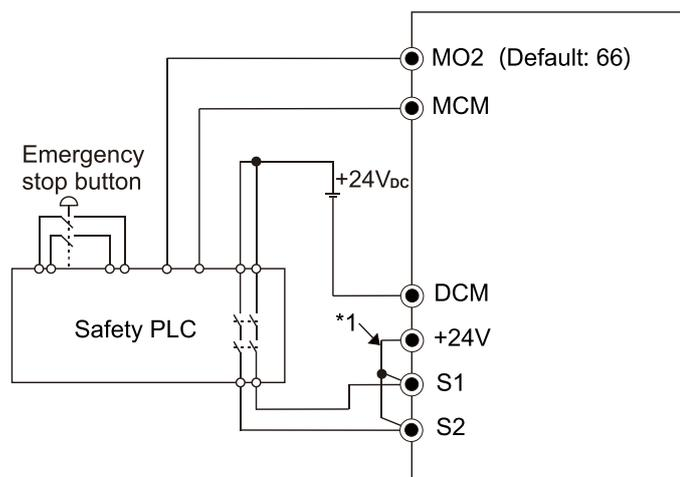

Figure 15-3
2. The wiring is shown in Figure 15-3 below. Normally, you must close the ESTOP contact switch, so the drive can output without displaying an error.